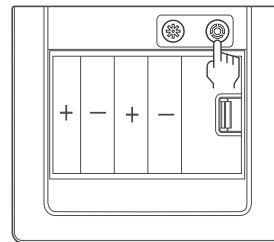

Figure 6
1. As shown in Figure 6, long press the black safe mode button '  ' for 3 seconds. There will be a voice prompt 'Shake alarm opened', indicating successful operation. Long press it for another 3 seconds can turn the 'Vibration alert' off.